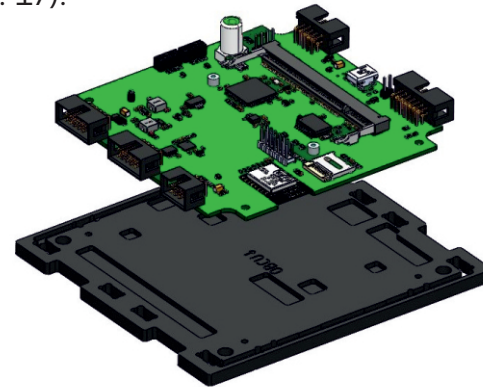

Fig. 17: OBCU support
- 1) Place the OBCU board (marked as “OBCU↓”) on the bottom support plate (Fig. 17):